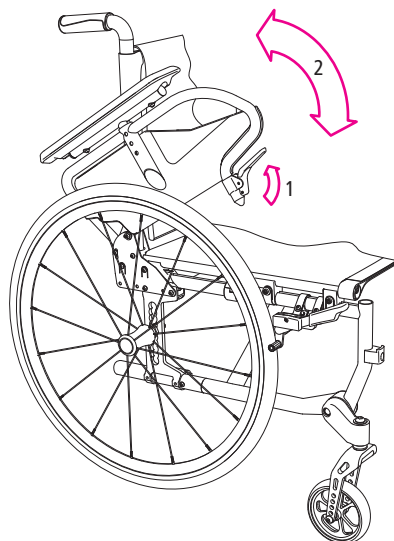

Fig. 27
1. To do this, pull the small locking lever gently upwards (1, Fig. 27).
2. The side panel lock is now released and you can swivel the complete side panel upwards/backwards (2, Fig. 27).